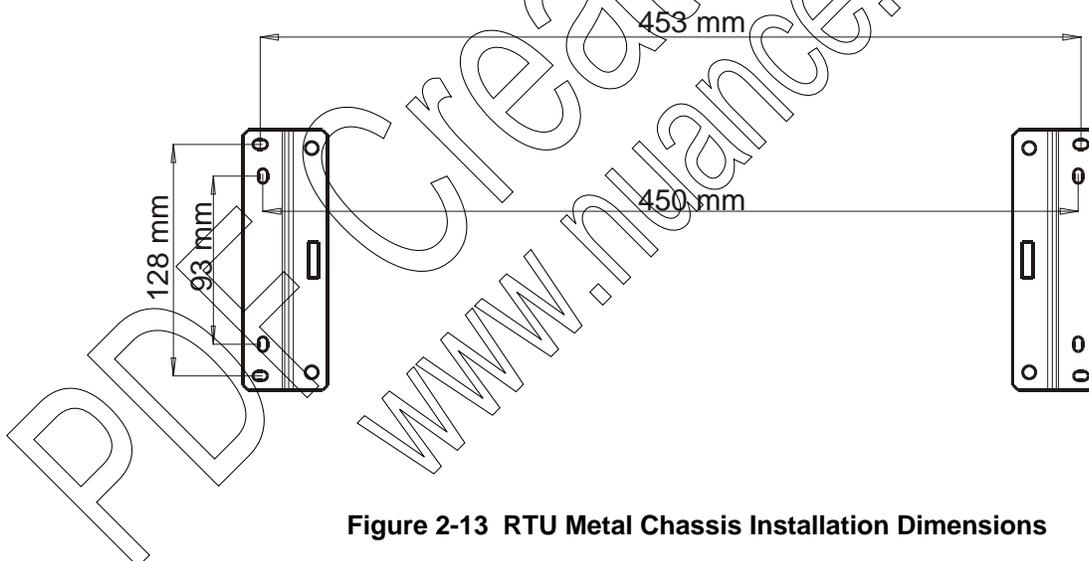

Figure 2-13 RTU Metal Chassis Installation Dimensions
- 2) Drill four holes into the wall at the horizontal and vertical distances shown in Figure 2-13.